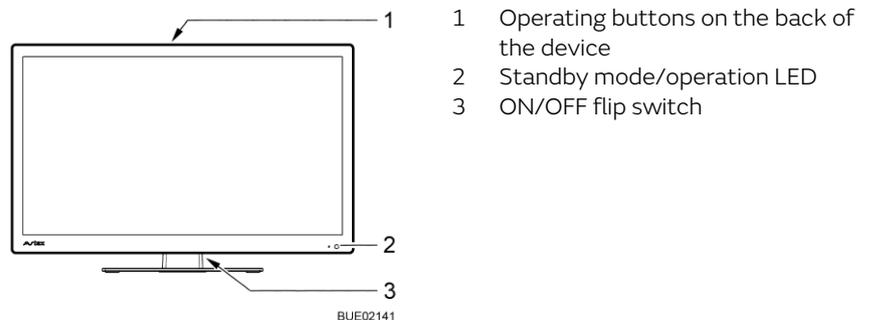
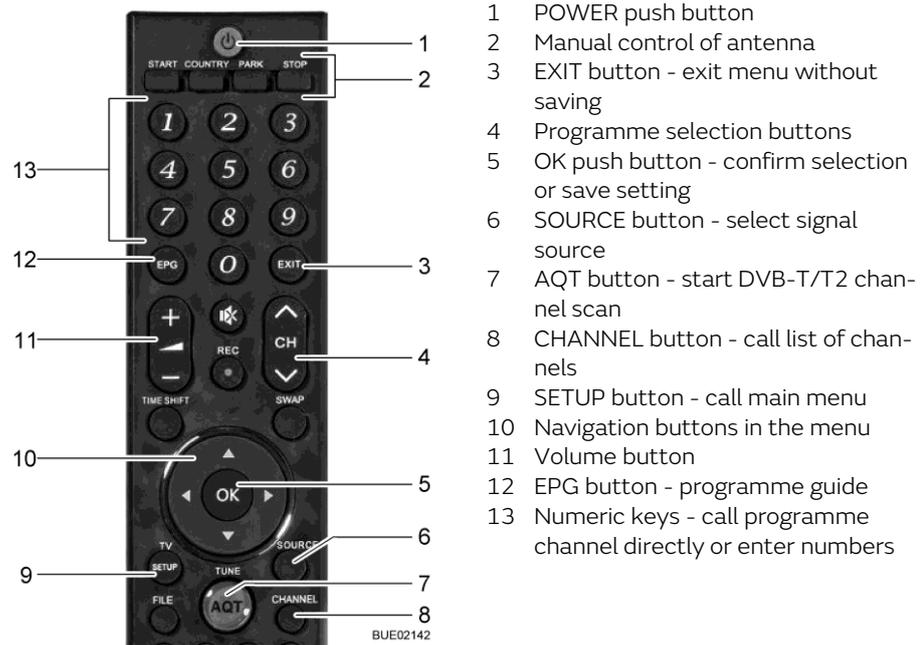

Fig. 30 Operation on the flat screen
Fig. 31 Remote control
- Set flip switch (Fig. 30,3) on the flat screen's back to ON. The system changes to standby mode. The LED (Fig. 30,2) is lit red.
- Press the POWER button (Fig. 31,1) on the remote control. The LED (Fig. 30,2) is lit blue.
- Press the programme selection buttons (Fig. 31,4 or Fig. 31,13) until the desired TV programme has been selected.
- Press the SOURCE button (Fig. 31,6) repeatedly until the desired signal source has been selected.
- Press the PARK button (Fig. 31,2). The antenna moves into parking position.
- Press the SOURCE button (Fig. 31,6) repeatedly until the desired signal source (e.g. DVD) has been selected.
- Press the POWER button (Fig. 31,1) on the remote control. The system changes to standby mode. The LED (Fig. 30,2) is lit red.
- Set flip switch (Fig. 30,3) on the flat screen's back to OFF.